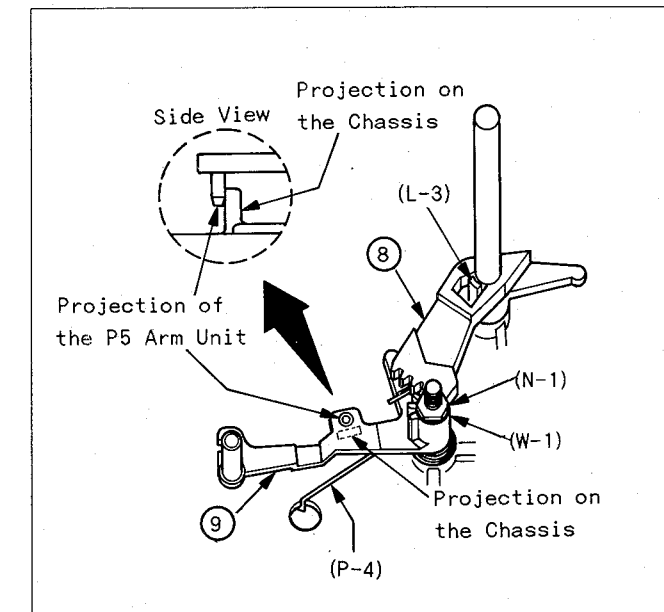

Fig. DM7
3. Install the P5 Arm Unit so that the projection of the P5 Arm Unit seats in front of the projection on the chassis as shown in Fig. DM7.